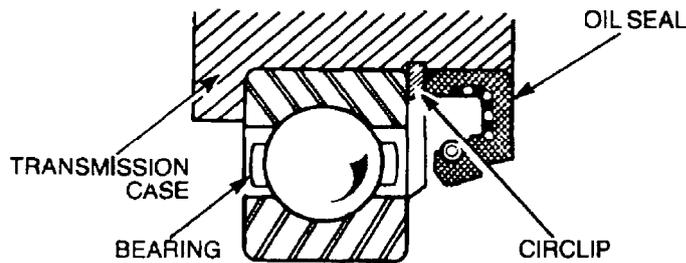

Figure 163 Installing the Main Shaft Rear Bearing and Oil Seal
- a. Using a suitable press, insert the new mainshaft rear bearing into the transmission case and secure it with the circlip. Using the seal inserter (Table 3, Serial 44), press in the oil seal with the lip towards the front of the case (Figure 163).